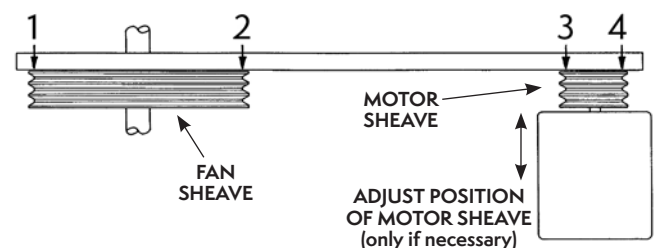

Figure 28 – Sheave Alignment Check
8. As a final check, lay a straight edge from sheave to sheave (**Figure 28**). There should be 4 point contact. Adjust the position of the motor sheave if necessary.